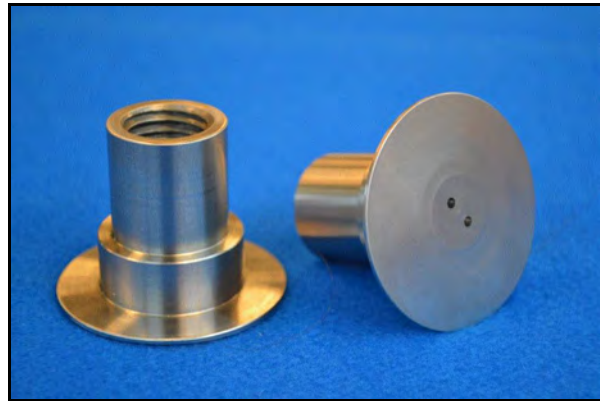

Figure 1. Vapor Pin™ Secure Cover.
- Vapor Pin™ Secure Cover (Figure 1);